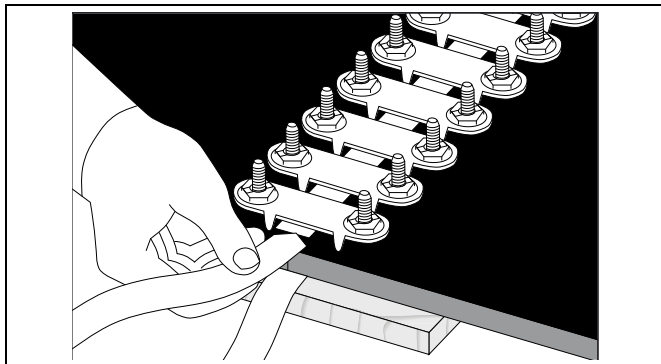

Figure 4K
8. Before tightening fasteners, cut a piece of Flexco-Loc Tape three (3) times the width of the belt plus 6" and cut a point on one end. Thread pointed tape between fastener teeth and top of belt, back through the bottom plates, and across the top again. This will help eliminate belt ripple and keep moisture and fine particles from deteriorating the end of the belt and increase belt life. *(See Figure 4K.)*